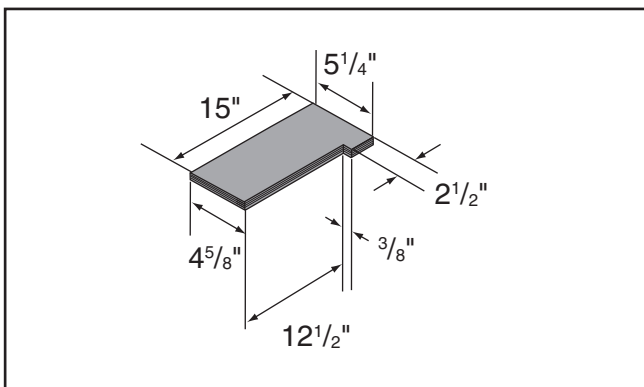

Figure 107. Push block base pattern.
- Cut a piece of plywood 15" long and 5 1/4" wide for the base of a push block, then cut off a strip 3/8" wide by 12 1/2" long (see **Figure 107**).